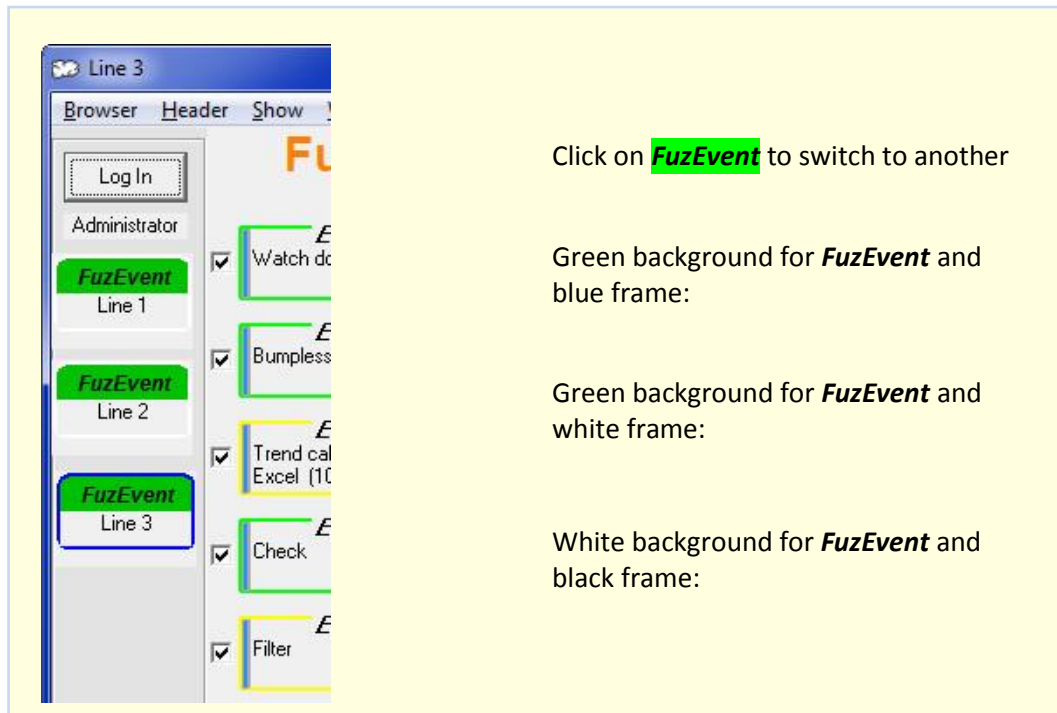

Fig. 7: The Application Switch Panel
- The application switch panel, Fig. 7